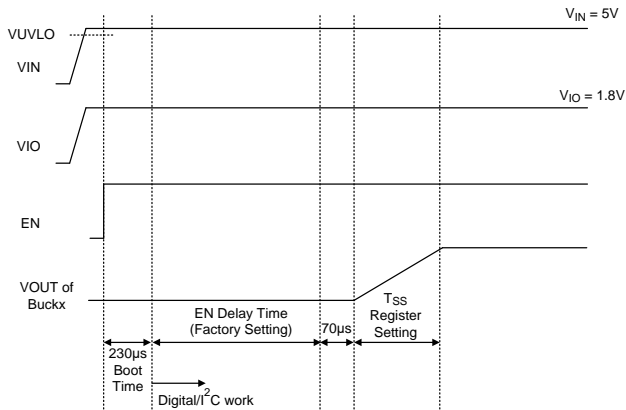
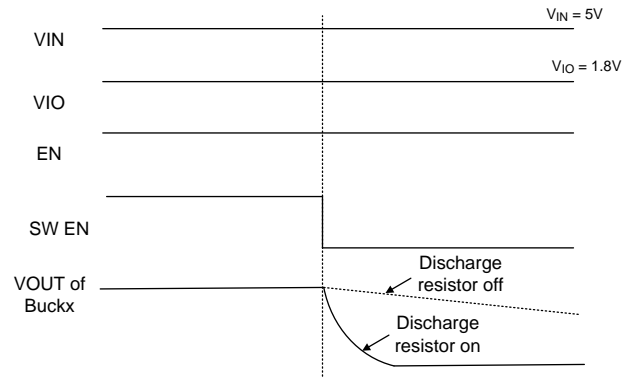
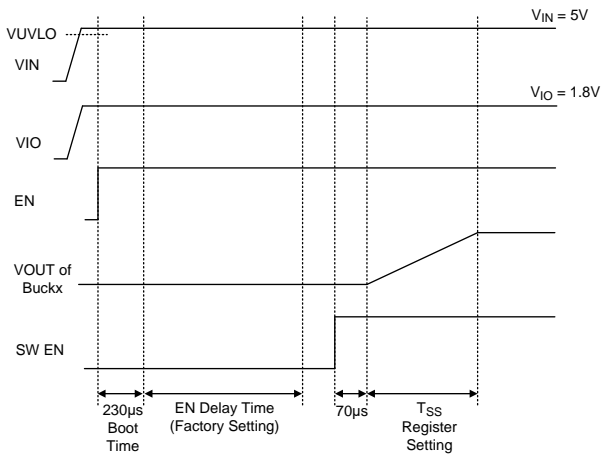
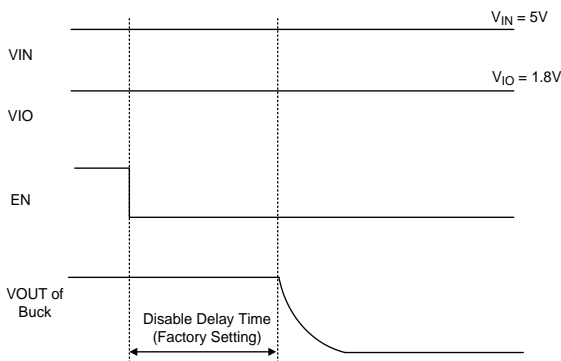

Figure 3. Start-up Sequence
Figure 6. Power-off Sequence by Software
Figure 4. Start-up Sequence by Software
Figure 5. Power-off Sequence
enable control, to enable or disable the device. If VEN is held below a logic-low threshold voltage (V_{ENL}) of the enable input (EN), the converter will enter into shutdown mode and reset all digital function (I^2C); that is, the converter is disabled even if the VIN voltage is above VIN under-voltage lockout threshold (V_{UVLO}). During shutdown mode, the supply current can be reduced to I_{SHDN} (20 μ A or below). If the EN voltage rises above the logic-high threshold voltage (V_{ENH}), the device starts switching. When appropriate voltages are present on the VIN, AVIN, VIO and EN pins, the RTQ2134 will begin digital function, switching and initiate a soft-start ramp of the output voltage. After the device is turned on and VIO is ready, all digital functions including I^2C communication start to work in a boot time with 230 μ s (typ.). The voltage of VIO can be used to supply power to digital function and it is recommended that enable the device after VIO voltage is ready. The RTQ2134 supports enable delay time setting (factory setting) and soft-start slew rate setting for each Buck. The soft-start function is used to prevent large inrush current while the converter is powered up. Register 0x55[5:4], 0x6F[5:4] and 0x89[5:4] let soft-start time of each be programmable. The start-up sequence is shown in Figure 3. IC also implements enable control by software, it can be set in the registers: 0x49[0], 0x4B[0], 0x63[0], 0x65[0], 0x7D[0] and 0x7F[0]. If the output voltage of Buck is default disable which is only set by factory, the output voltage starts to ramp up by software and the Figure 4 shows the start-up sequence. For disable function, the device supports disable delay time setting (factory setting) by external EN pin and the output voltage ramps down with default discharge resistor. The discharge resistor can be controlled to on or off by register 0x42[0], 0x5F[0] and 0x79[0] when the converter is disabled by software. The power-off sequence is shown in Figure 5 and Figure 6.